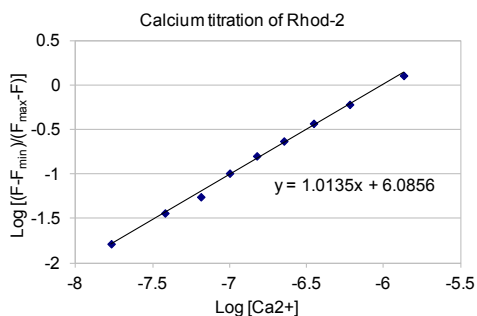

Figure 1. Example of a calcium calibration curve for Rhod-2 ($K_d = 1 \mu$ M).
8. Plot $\log\{(F - F_{min})/(F_{max} - F)\}$ vs. $\text{Log}[Ca^{2+}]$. Make sure that the unit of [Ca²⁺] is in M. The X-intercept from the linear plot is $\text{Log}K_d$ (M). See Figure 1 for an example.